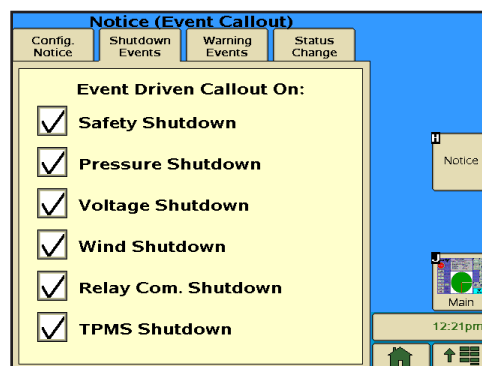

Figure 84-1 Shutdown Events Screen
1. Push **Options, Notice, Shutdown Events** to display the Shutdown Events screen. Refer to Figure 84-1.